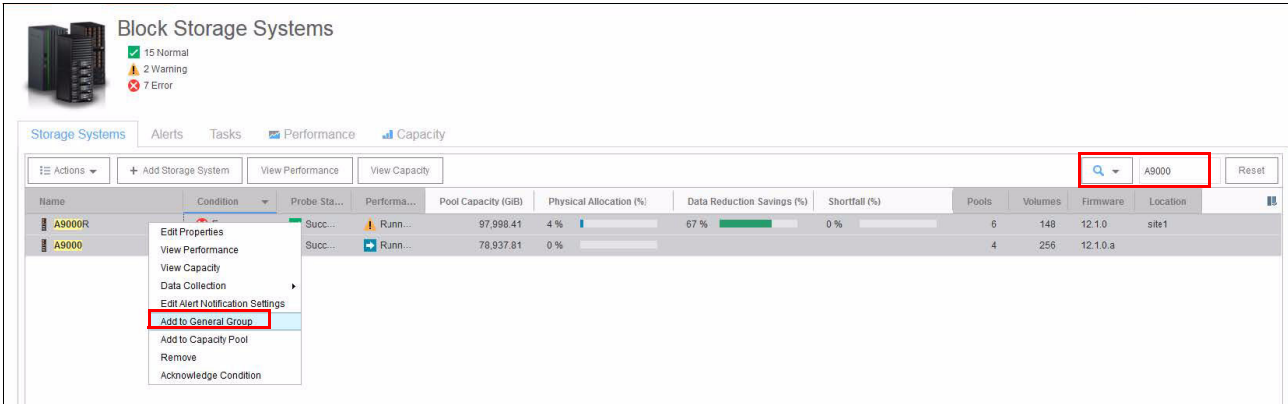

Figure 3-11 Adding multiple Storage systems to a general group
3. To avoid having to specify alerts/thresholds multiple times for the same kind of storage systems, a general group can be created. See Figure 3-11 for an example for FlashSystem A9000.